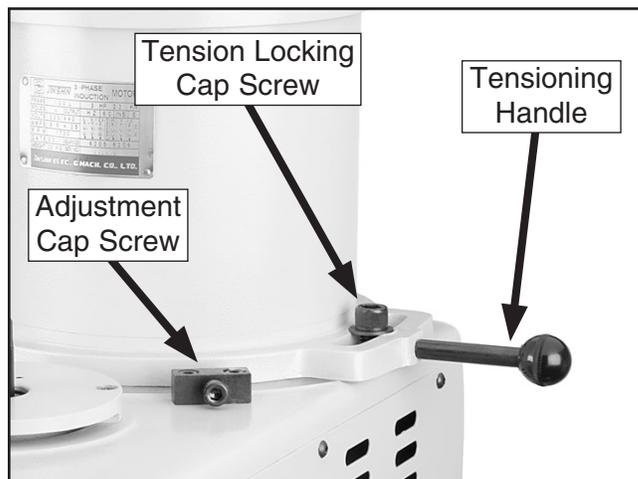

Figure 61. Drive belt tensioning controls.
4. Loosen the tension locking cap screw to the right side of the motor, as shown in **Figure 61**.